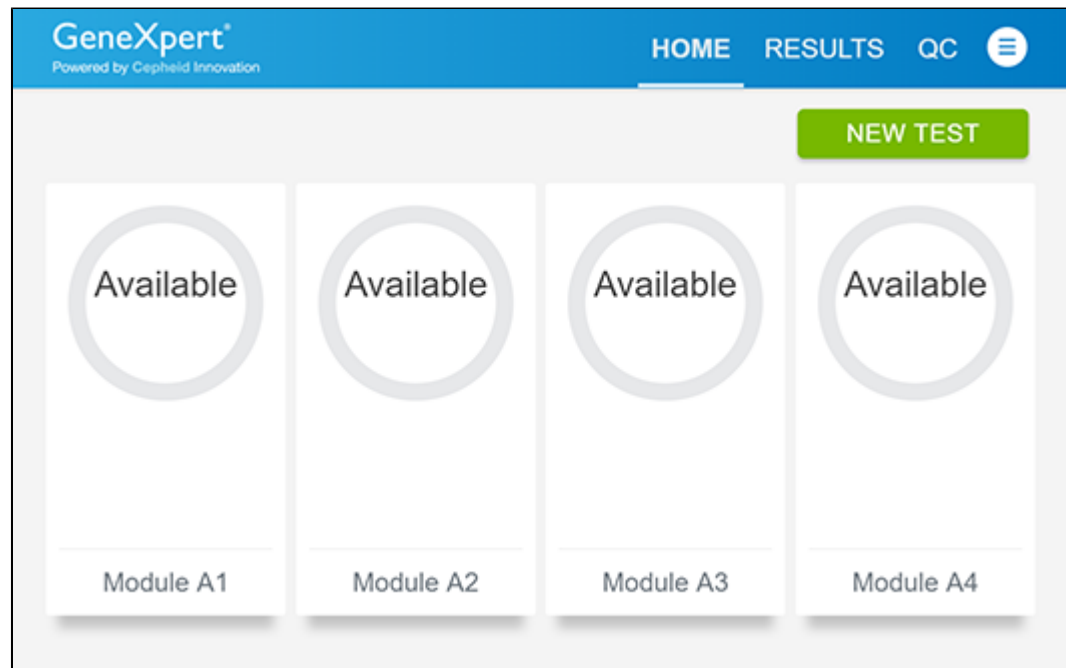

Figure 22. Home Screen
- If otherwise required by your institution's standard Quality Control (QC) procedures
1. Put on a new pair of gloves if performing a new test. Touch the **QC** button on the Home screen (see Figure 22).